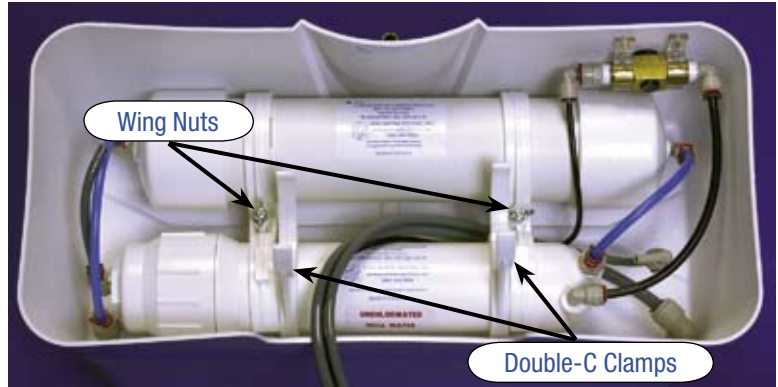

Figure 2, Location of Wing Nuts securing DI Module & RO Pressure Vessel
- 3) With the module free of its connections, it can be removed from the two “Double C” clamps holding it to the RO pressure vessel. Remove the two “Double C” clamps and set them aside. (See Figure 2, next page.)
- 4) With the pre-filter removed, you now have access to the DI Module and the RO pressure vessel. These modules are attached with a custom clamp secured by two wing nuts. (See Figure 2, next page) Before removing the wing nuts, you need to disconnect several more tubes from their fittings...
- 5) Disconnect the tubing from each end of the de-ionization (DI) module.